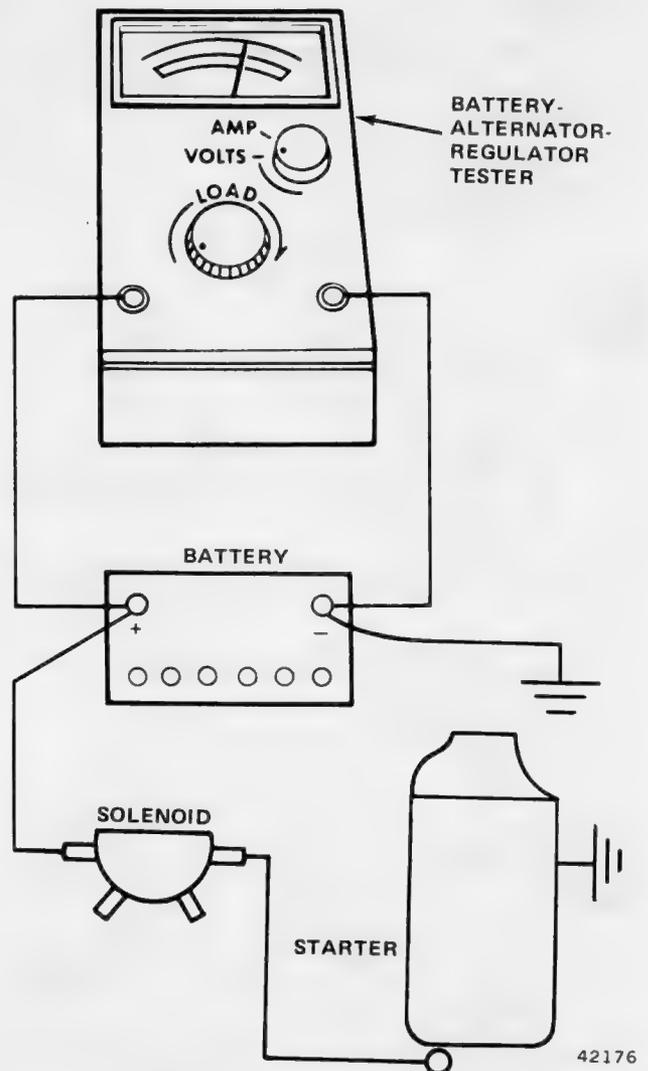

Fig. 1F-4 Starter Motor Current Draw Test
(1) Operate starter with test equipment connected as shown in figure 1F-5. Note voltage reading.
(2) Determine exact starter rpm using mechanical tachometer (not shown).